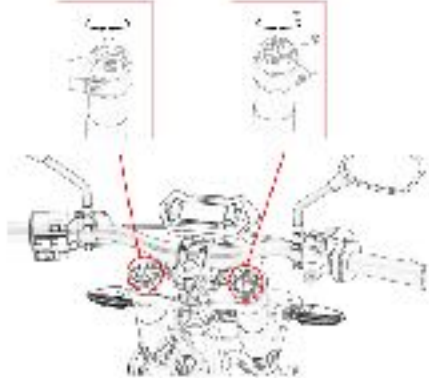

Fig 7
6.2.1 Tune front **absorber** (see Fig 7)